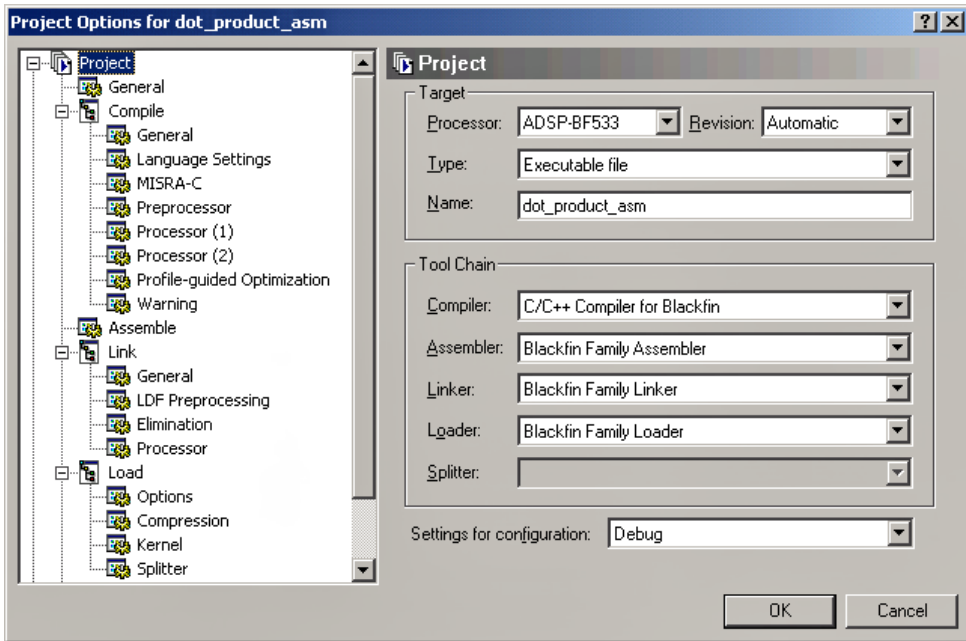

Figure 2-12. Project Options Dialog Box – Project Page
11. From the **Project** menu click **Project Options** to display the **Project Options** dialog box (Figure 2-12).
13. On the **Project** page (Figure 2-12), verify that the values shown in Table 2-1 are specified.